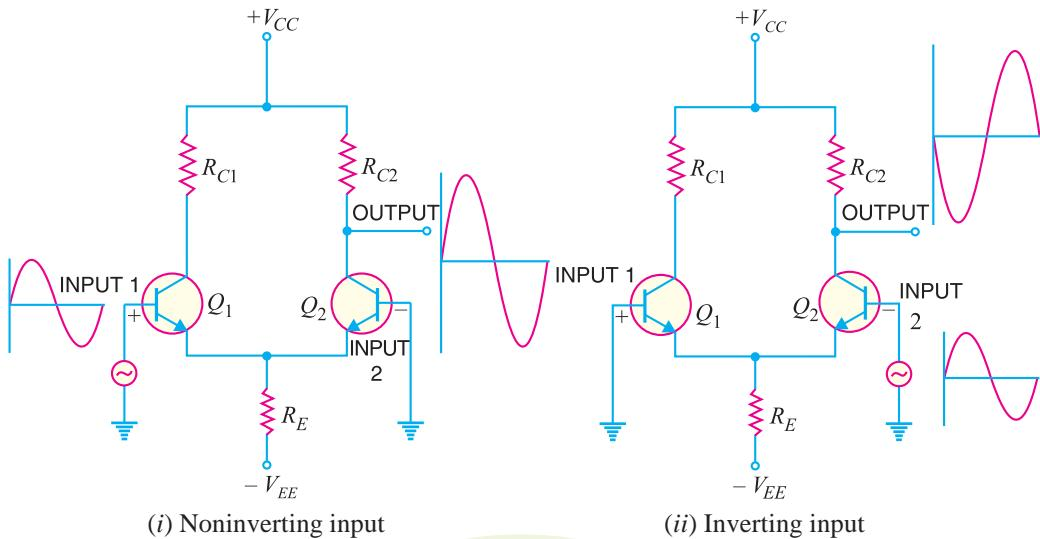

Fig. 25.7
- (b) When only one output terminal is available, the phase of the output of single-ended input DA depends on which input receives the input signal. This is illustrated in Fig. 25.7.
When signal applied to the input of *DA* produces no phase shift in the output, it is called ***non-inverting input*** [See Fig. 25.7 (i)]. In other words, for noninverting input, the output signal is in phase with the input signal. When the signal applied to the input of *DA* produces 180° phase shift, it is called ***inverting input*** [See Fig. 25.7 (ii)]. In other words, for inverting input, the output signal is 180° out of phase with the input signal. Since inverting input provides 180° phase shift, it is often identified with $-$ sign. The noninverting input is then represented by $+$ * sign. It may be noted that terms noninverting input and inverting input are meaningful when only one output terminal of *DA* is available.
- * Note that in Fig. 25.7, the noninverting input terminal is given the +ve sign while the inverting input terminal is given the -ve sign.